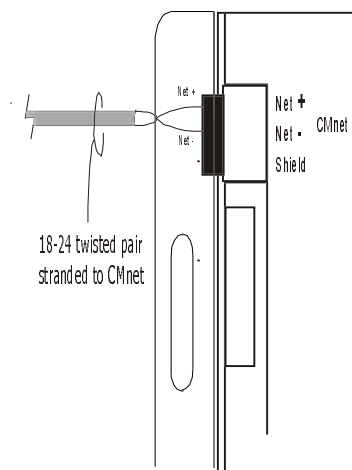

Figure 6. Wiring the CMnet
3. Connect the CMnet wires to the module's screw terminals as shown in Figure 6. Be sure to follow the same polarity as the rest of the CMnet.